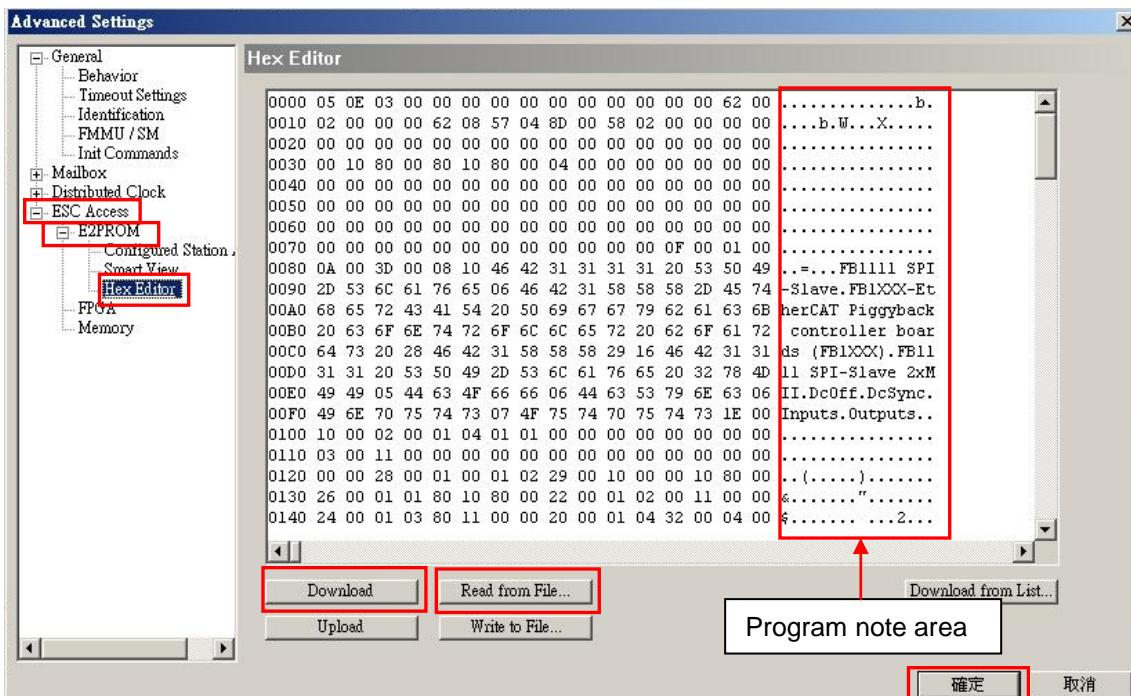

Fig. 5-20
- (3) Select “E2PROM” in “ESC Access” at the left side of “Advanced Settings” window. After clicking “Hex Editor”, it can be found that “FB1111 SPI-Slave”, unknown device, or blank content is on the program note area at the right-side window, as shown in Fig. 5-20.